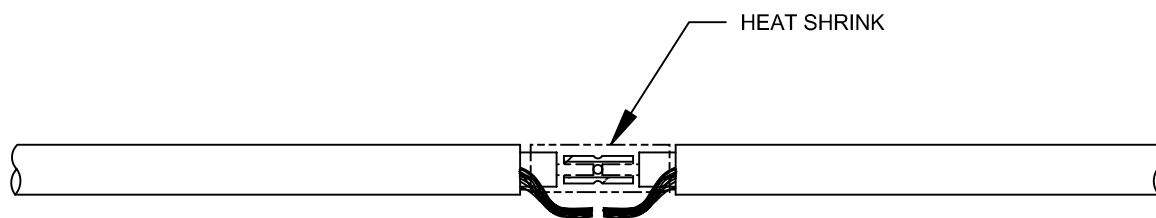

Figure 6.29 – Heat Shrinking the Center Conductor
- **Step 5:** Move the heat shrink over the center conductors and shrink as shown in Figure 6.29.